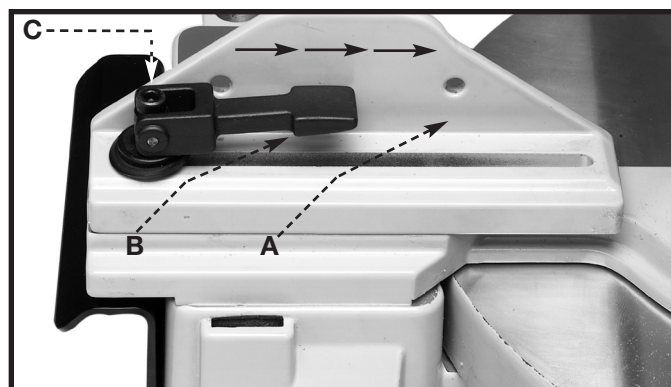

Fig. 22
The sliding fence (A) Fig. 22 provides support of large workpieces. Set it as close as possible to the saw blade. When miter cutting at 0° bevel (blade 90° to the table), the fence (A) should be all the way toward the blade (Fig. 22).
When bevel cutting, move the fence (A) Fig. 23 away from the blade to allow for clearance for the saw blade and guard. To accomplish this, lift up on the fence tension knob (B) Fig. 22, slide the fence to the desired location, and push down on the fence tension knob to lock the fence.
**NOTE:** Adjust the pressure on the tension knob by turning the hex-head cap screw (C) Fig. 22 on top of the tension knob counter-clockwise to decrease clamping tension, and clockwise to increase clamping tension.